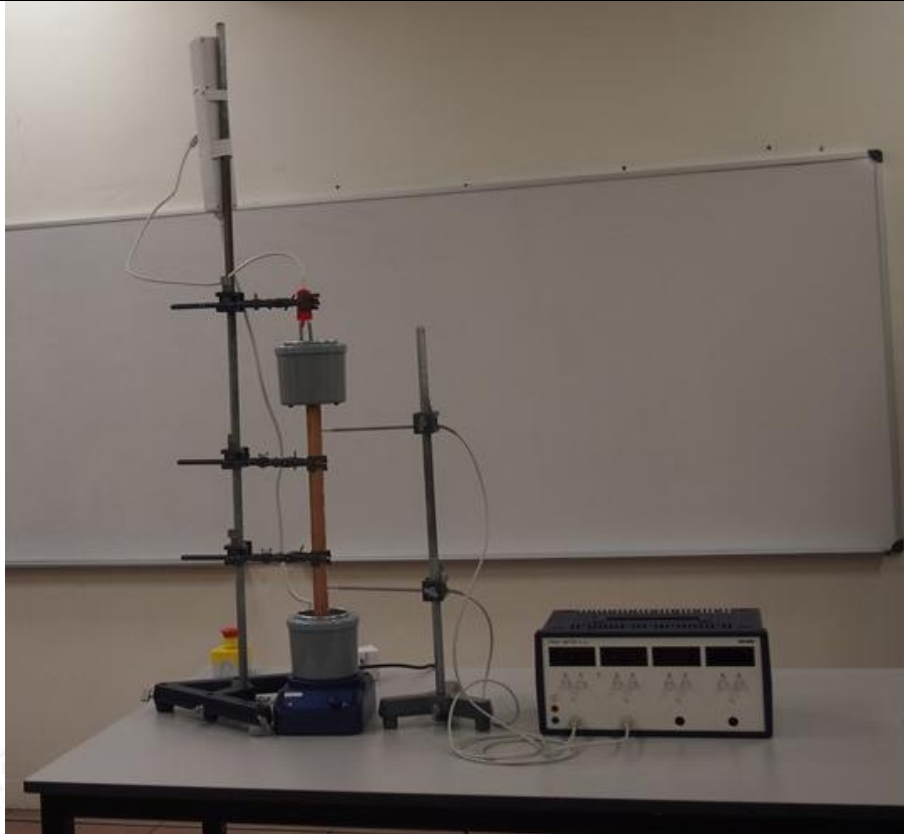

Figure 6. Experimental set-up for the measurement of the thermal conductivity
1. Perform the experimental set-up according to Fig. 6.